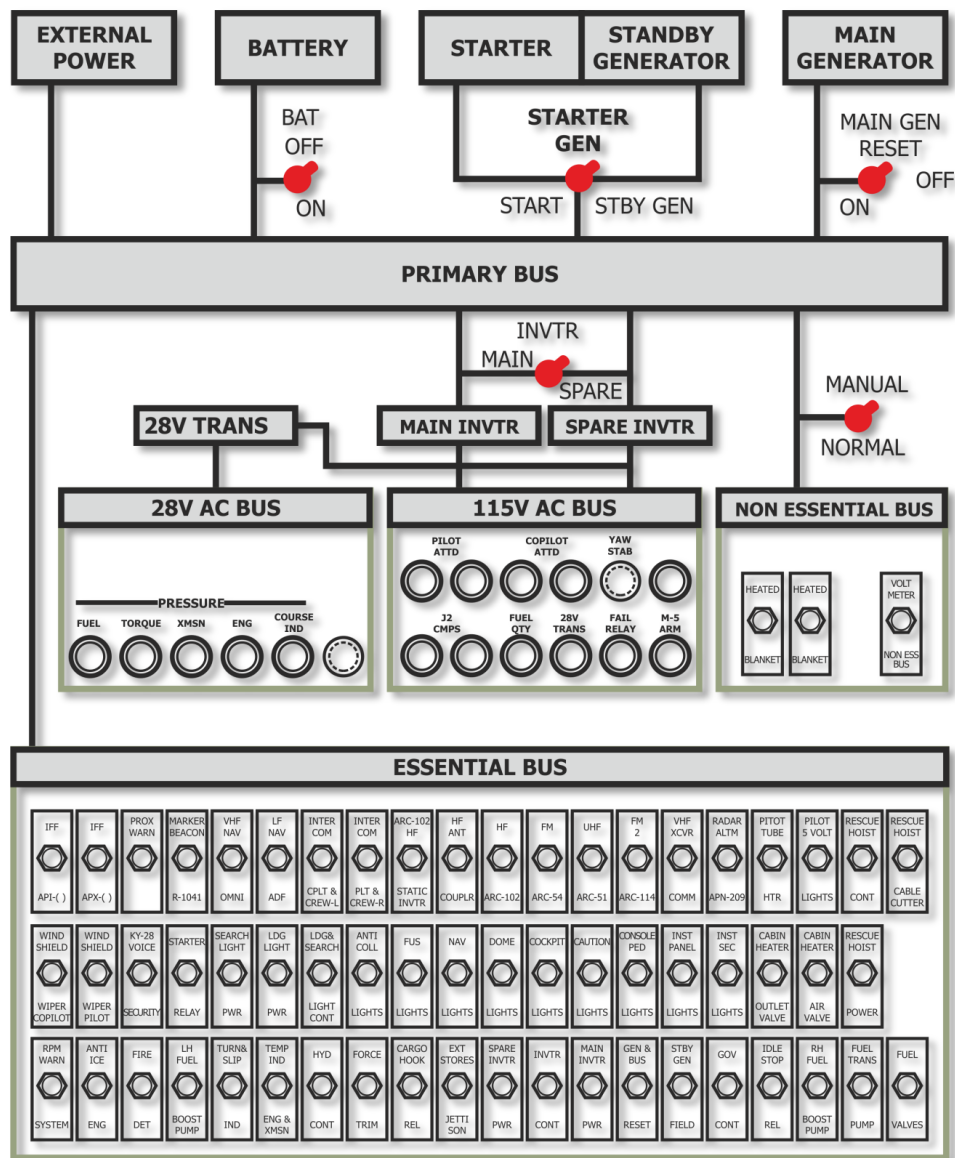
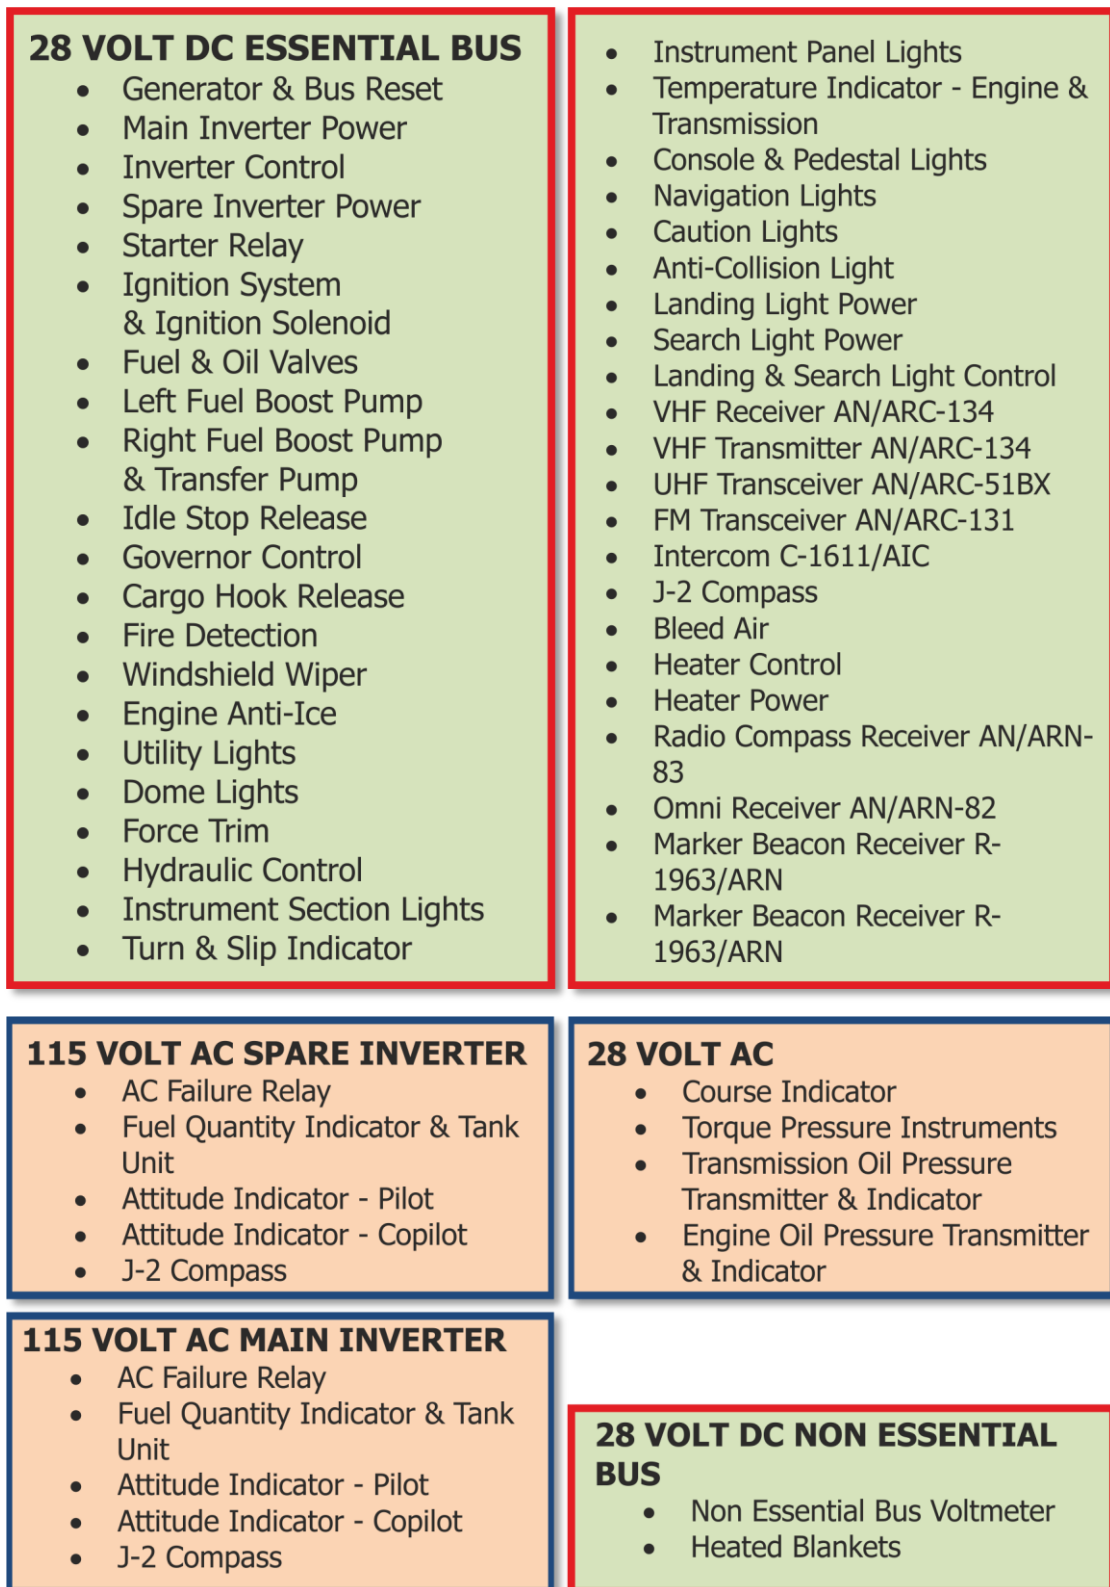
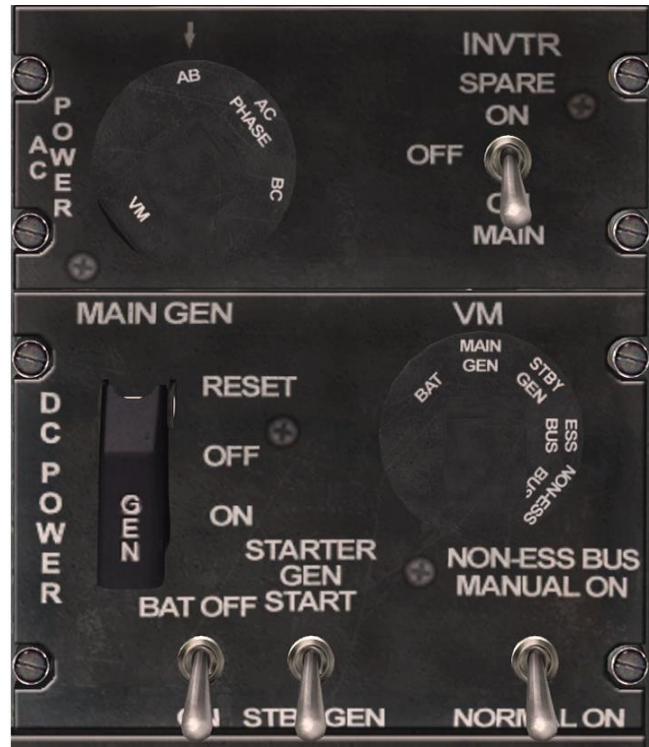

Figure 6.2. Electrical system schematic.
Figure 6.4. DC and AC Power Distribution Diagram.
Figure 6.5. Overhead console AC and DC POWER panel.
Figure 6.2. Figure 6.4 depicts the general schematic of the DC and AC power distribution system. The DC power is supplied by the battery, main generator, standby starter-generator, or the external power receptacle. The 115 VAC power is supplied by the main or spare inverters. The 28 VAC power is supplied by a transformer which is powered by the inverter.
A. MAIN GENERATOR SWITCH The MAIN GEN switch (Figure 6.5) is on the overhead console DC POWER panel. In the ON position the main generator supplies power to the distribution system. The RESET position is springloaded to the OFF position. Momentarily holding the switch to RESET position will reset the main generator. The OFF position isolates the generator from the system. The circuit is protected by the GEN & BUS RESET in the DC circuit breaker panel.
Alternating current is supplied by two inverters (Figure 6.2). They receive power from the essential bus and are controlled from the AC POWER control panel (Figure 6.5).